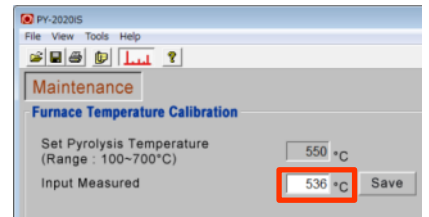

Fig. 1.2
- 1.2 Note the value displayed in **“Maintenance”** screen, framed in red (Fig. 1.2). If this value is **“0”**, the temperature calibration has been reset. When calibrated value is entered in Step 3 and subsequent steps, prepare to recreate a calibration curve as needed, because the pyrolyzer furnace actual temperature changes.